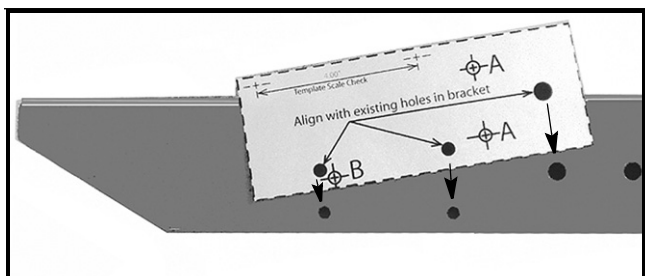

FIGURE 11
35. Cut out the drill template found on page 7. See Figure 11.
37. Position the template's three (3) solid black circles directly on top of the three matching holes of the new LH frame. Tape the template in place. See Figure 11.